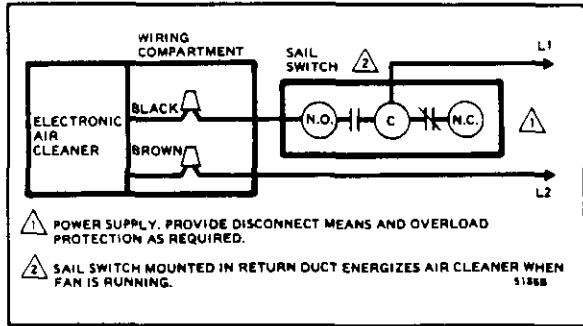
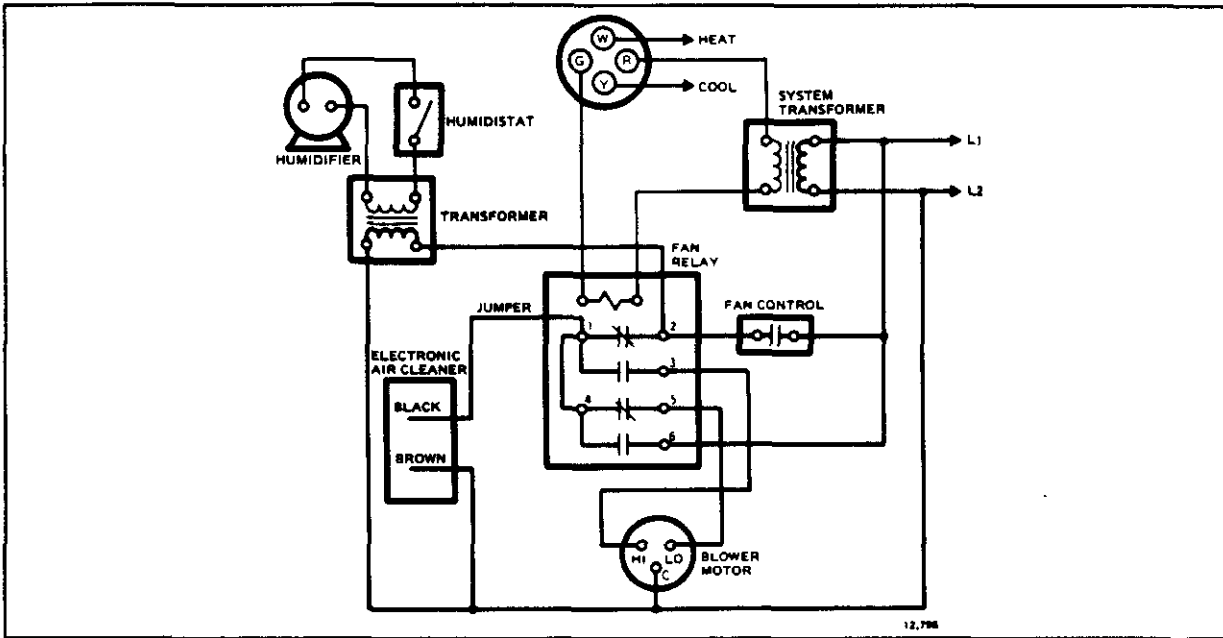

FIG. 22—MULTISPEED OR MODULATING BLOWER MOTOR. AIR CLEANER IS CONTROLLED BY A SAIL SWITCH.
FIG. 23—TWO SPEED BLOWER MOTOR. AIR CLEANER IS CONTROLLED THROUGH A DPDT FAN RELAY. NOTE POWER HUMIDIFIER CONNECTIONS.
2. If the system blower is driven by a 3-phase, variable speed or a 2-speed motor, the air cleaner must be isolated from the blower motor. Use a sail switch mounted in the return air duct (see Fig. 22) or a dpdt fan relay (see Fig. 23). Connecting the air cleaner in parallel with one speed of a multispeed motor can create an auto-transformer effect. If connected with the high speed, voltage supplied to the air cleaner at low speed will be too low, and the air cleaner may not operate at all. If connected with the low speed, voltage to the air cleaner at high speed will be too high and the air cleaner will burn out.